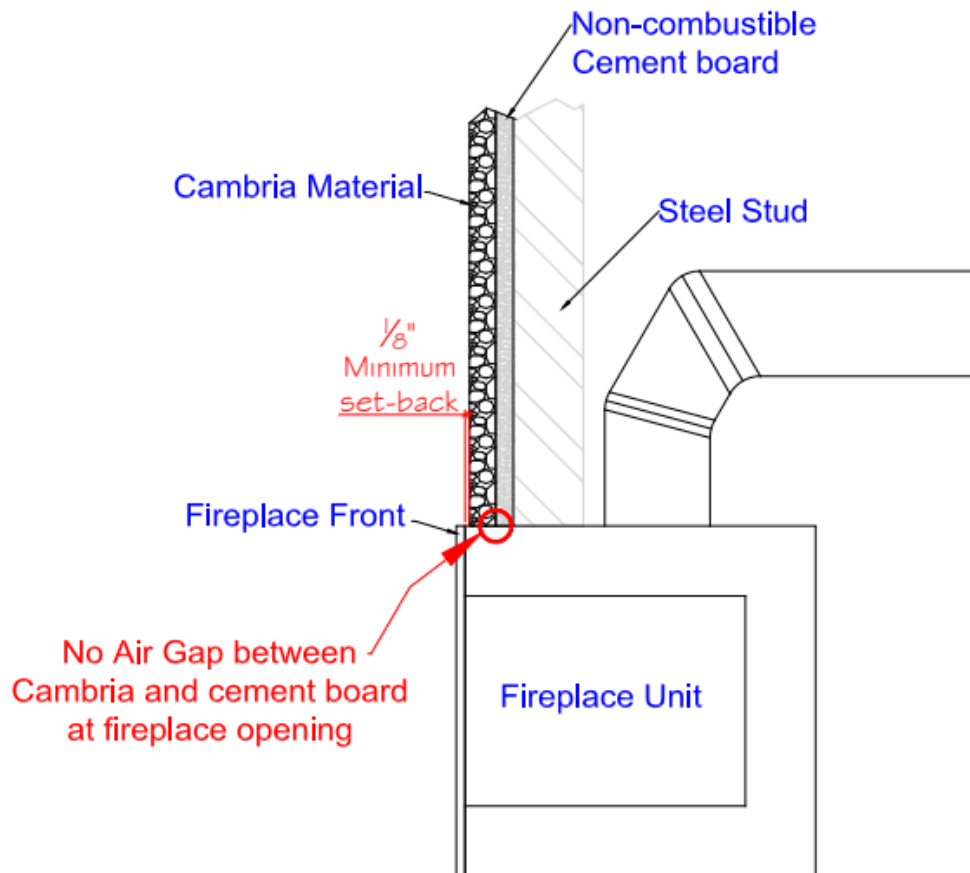

Figure 4
9. Fireplace framing must be designed and installed so the polished surface of the Cambria is recessed from the finished face of the fireplace opening a minimum of 1/8". **See Figure 4.**
10. The bottom backside of the Cambria surface product must always be permanently adhered to the non-combustible material so there is no air gap between the backside of the Cambria and front face of the non-combustible material. **See Figure 4.**